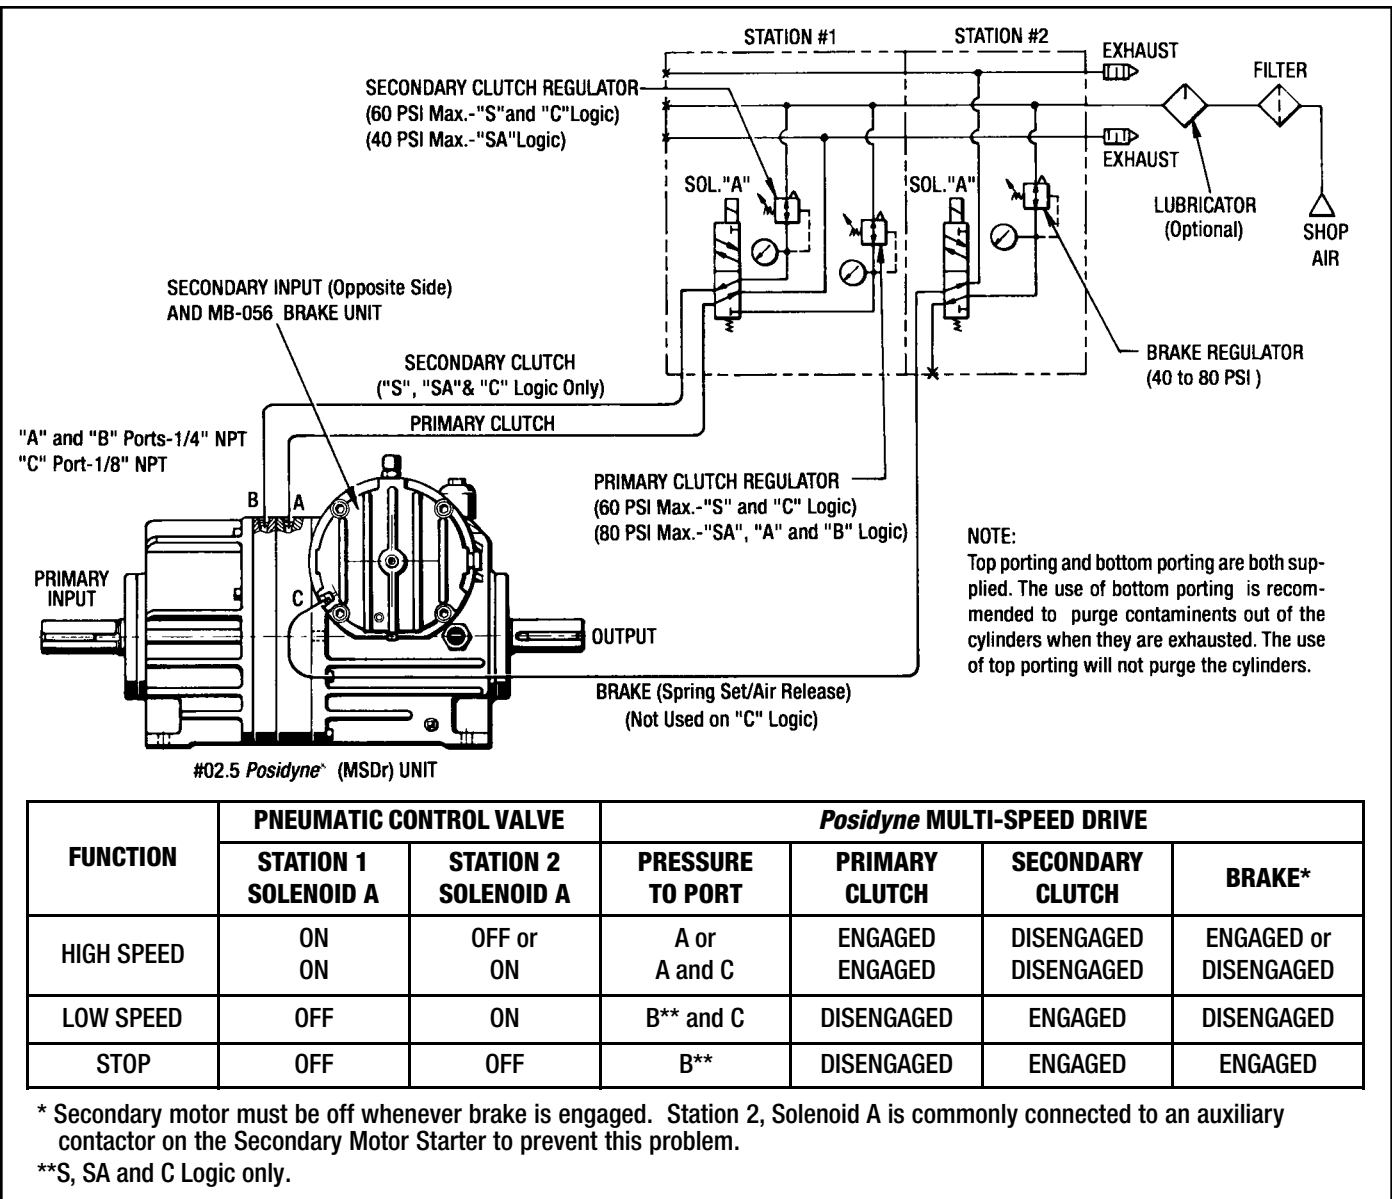

Figure 5.2 - Pneumatic Control Diagram
2. Insert Diagnostic Pressure Gauges in the air supply between the control valves and the drive. (See Figure 5.2)
3. Activate Solenoid Control Valves for desired function. (See Logic Diagrams below in Figure 5.2)